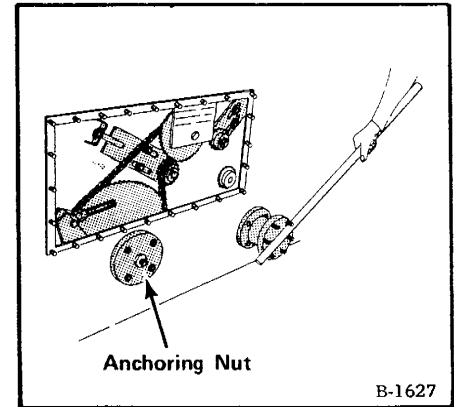

Fig. 4-32 Removing Anchoring Nut
(12) Use a long bar across two wheel lugs on the axle to turn the axle nut off the axle (Fig. 4-32).
(13) Remove the two hub nuts and slide the axle, with outer hub, out of the machine.
(14) Lift the sprocket out of the reservoir.